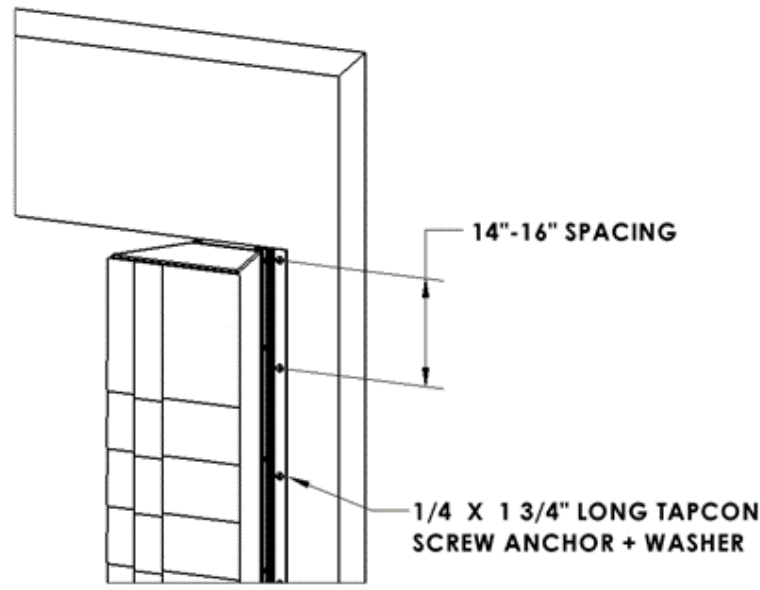

FIGURE 9
- c. Make sure the Right-Side Pad (D) is perfectly plum. Drill the inside mounting holes for the Flat Brackets (J) or Offset Bracket (K) depending on mounting style. Use 1/2" or 3/8" diameter anchors that are at least 1 7/8" long (supplied by the contractor) to connect the Flat Brackets or the Offset Brackets to the side opening of the door on the inside—use 1 fastener per bracket.
- d. The Right-Side Pad (D) will be secured to the building using 1/4"x1 3/4" Long Tapcon Screw Anchors (F) and Flat Washers (H). Fastener quantity will vary depending on the length of Side Pad (see below). For 9' Side Pads, use a total of 8 mounting fasteners: 1 near the top, 1 near the bottom, and 6 spaced in between.
**(7) FASTENERS TO BE USED ON 8' SIDE PADS.**
**(8) FASTENERS TO BE USED ON 9' SIDE PADS.**
- e. The anchors with washers should be spaced 14"-16" apart and ideally placed in mortar joints when possible. Drill the holes into the bracket and wall for the Tapcon Screw Anchors using a 3/16" diameter masonry drill bit. Fasten each anchor with washer as shown (Figure 7, Figure 8 & Figure 9).